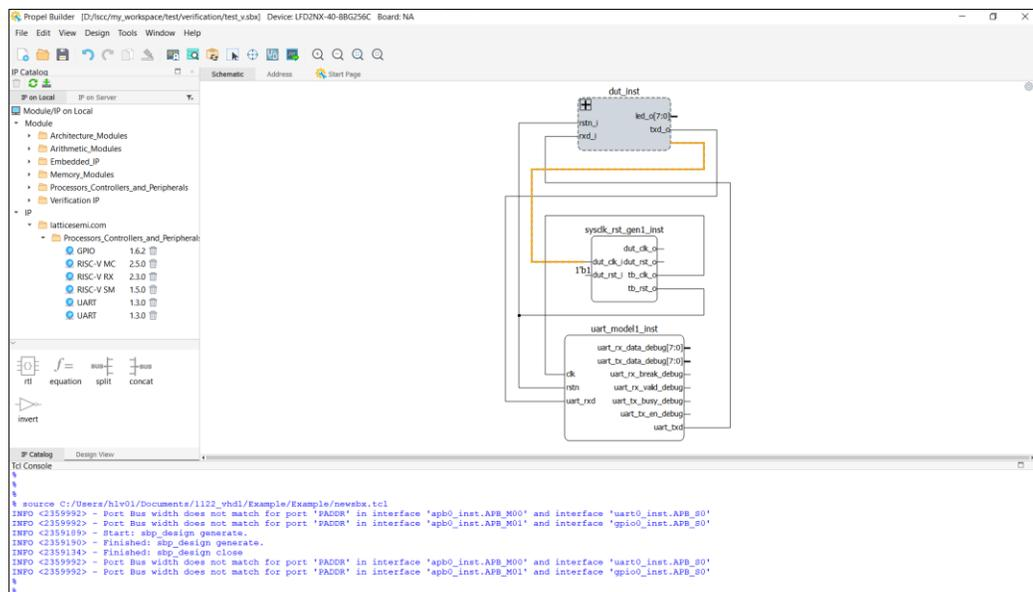

Figure 5.4. Launch TCL Script to Create New Project
- To launch this TCL script to create a new project, make sure no design is currently open in Propel Builder. Type 'source <tcl_path>' in the TCL console, as shown in the example below (Figure 5.4):